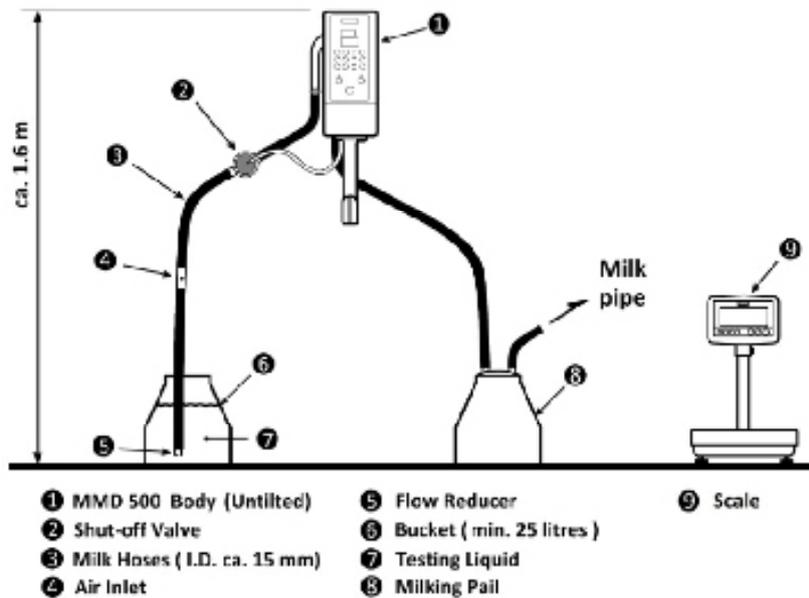

Figure 1. Water test. Secure MMD500 at a height of approximately 1.6 meters (un-tilted).
4. Prepare for the test as figure 1.